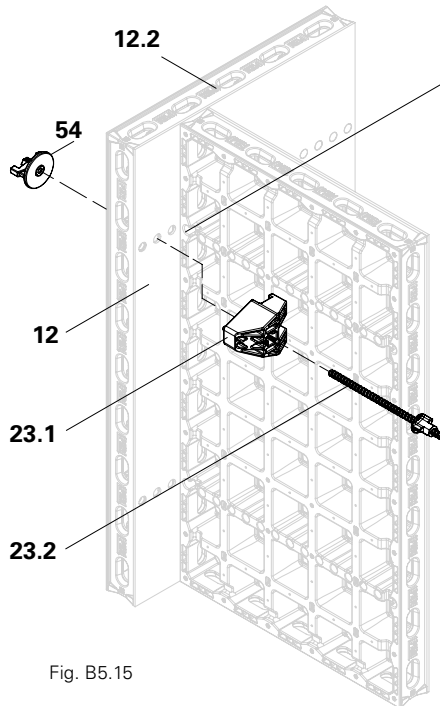

Fig. B5.15
1. Disassemble the DUO corner connector (23), screw the cam nut (53) onto the corner tie (23.2).
2. Position the DMP 75 multi panel (12.2) in front of the last DMP multi panel at a right angle. (Fig. B5.15)